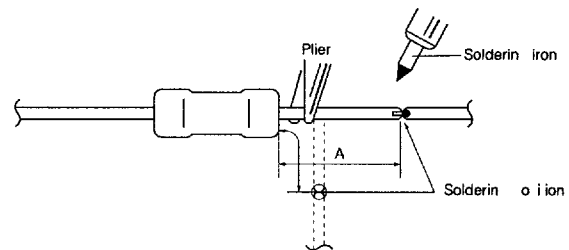

Fig.1
2) When using a soldering iron, release heat by using pliers or the like as shown is Fig. 1 so as to minimize the heat effect to the resistance element. If soldered for a long time at high temperatures the performance may be deteriorated by heat, or the resistor may open. So, keep a safe distance over 6 mm from the body and solder within 3 seconds at 300 °C or lower temperatures.